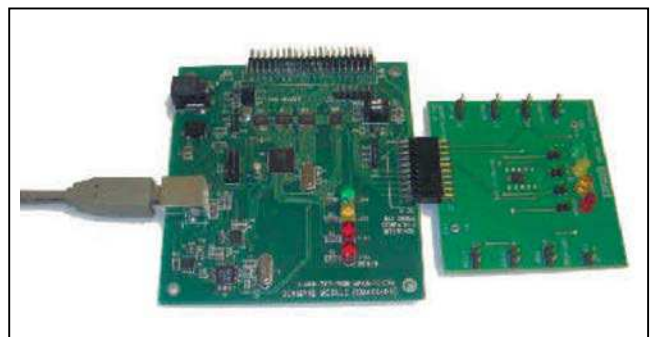

Figure 2. CMAXQUSB with DS28CZ04 EV Board
The DS28CZ04 EV system is defined to be the DS28CZ04 EV board coupled with the CMAXQUSB command module and the evaluation software. The DS28CZ04 EV board connects to the appropriately labeled pins on the CMAXQUSB command module. See location P3 labeled "MAX SMBus COMPATIBLE INTERFACE" in Figure 2. The evaluation software runs under the Windows XP/2000
- b. Install the master reset jumper S5 (text label MRZ) to VCC (jumper center pin to pin on left) and the address jumpers S1 (text label A1) and S2 (text label A2) on the DS28CZ04 EV board (see Figure 2).
- 3) Set the desired physical slave address by changing the S1 (text label A1) and S2 (text label A2) switches for address lines A1 and A2. Note that the A1 or A2 pin can be shorted to ground (jump center pin to pin on left) or VCC (jump center pin to pin on right) (see Figure 2).
- 3) Remove jumper from the corresponding input GPIO switch control to allow output control. For example, to set up PIO3 as an output, remove jumper on S3 (text label GPIO3) (see Figure 2).
- 3) Remove jumper to output LED control. For example, to disable PIO1 as an LED control, remove jumper J3 (text label GPIO1) (see Figure 2).